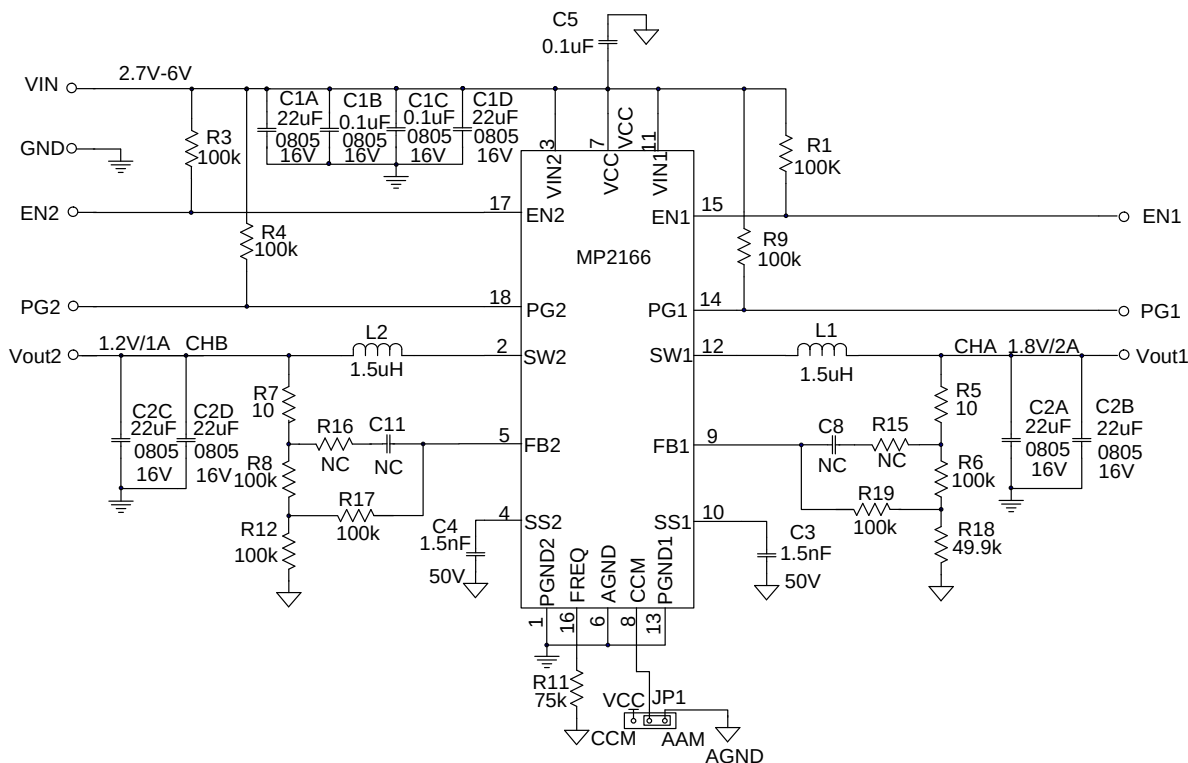

Figure 7: 2A/2A Application Circuit
6) The recommended PCB layout is based on Figure7